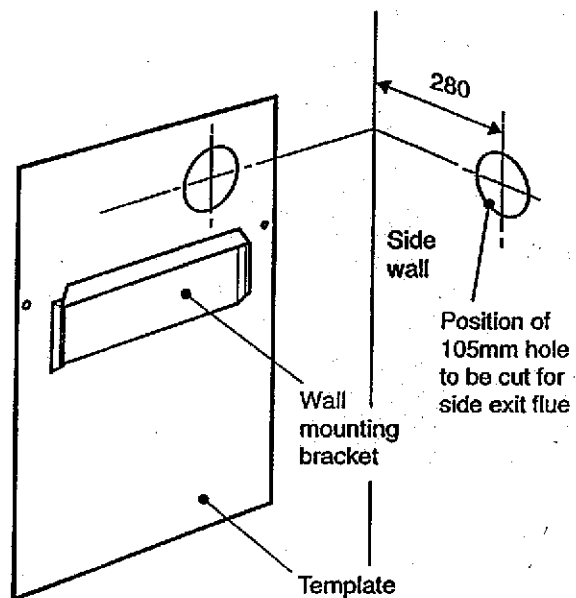

Fig. 9
3.2 PREPARE THE WALL (See Fig. 9)